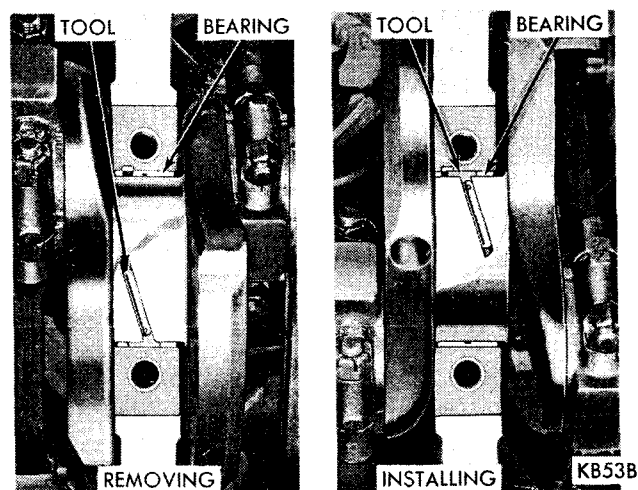

Fig. 48—Removing or Installing Upper Main Bearing
(1) Remove oil pan and identify bearing caps before removal.
(2) Remove bearing caps one at a time. Remove upper half of bearing by inserting Tool C-3059 (Fig. 48) into the oil hole of crankshaft.
(1) Start bearing in place, and insert Tool C-3059 into oil hole of crankshaft (Fig. 48).
(2) Slowly rotate crankshaft counter-clockwise sliding the bearing into position. Remove Tool C-3059.